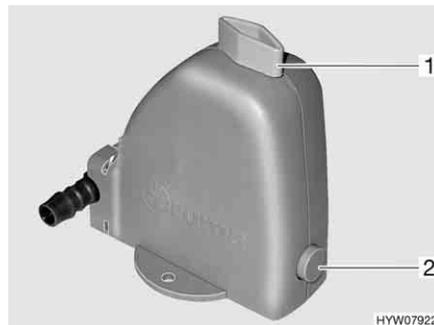

Fig. 194 Safety/drainage valve of the boiler
The boiler is equipped with a safety/drainage valve (Fig. 194). The safety/drainage valve prevents water in the boiler from freezing, when there is frost and the heater is not switched on.
- Close the safety/drainage valve. Turn the knob (Fig. 194,1) perpendicular to the safety/drainage valve and push the push button (Fig. 194,2) in.
- Open the safety/drainage valve. To do this turn the knob (Fig. 194,1) parallel to the safety/drainage valve. The push button (Fig. 194,2) jumps out. The boiler is drained to the outside by the safety/drainage valve.